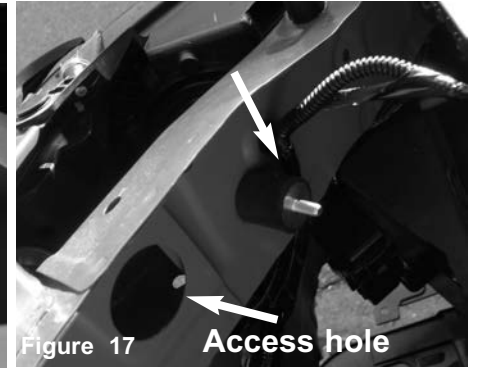

Figure 17
A) Locate the hole on frame next to battery behind headlight B) Now use larger hole to slide inside the washer and M6 nut and line up to hole(see figure 17 for photo of hole).